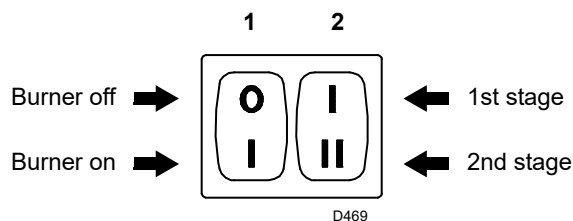
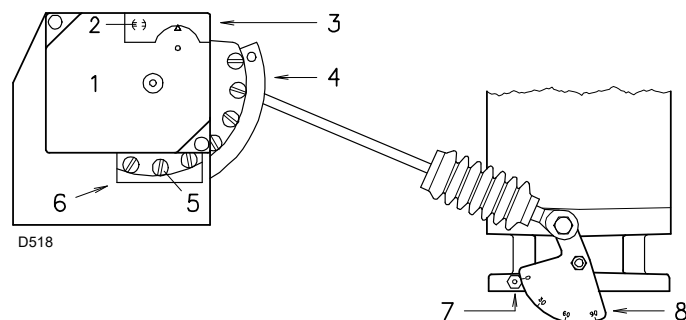
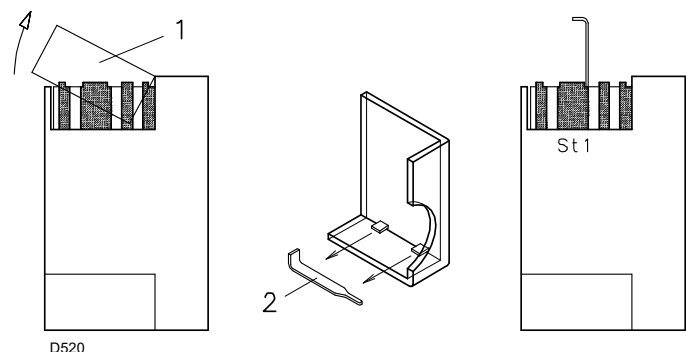

Fig. 28
Fig. 29
Fig. 30
- switch 1)(Fig. 28) to "Burner ON" position
- switch 2)(Fig. 28) to "1st STAGE" position.
In the above instructions we left the burner running in 1st stage operation. Now set switch 2)(Fig. 28) to the 2nd stage position: the servomotor will open, simultaneously, the air damper and the gas butterfly valve to 90°.
Progressively adjust the end profile of cam 4)(Fig. 29) by turning the cam adjustment screws as they appear through the access opening 6)(Fig. 29).
Set the switch 2)(Fig. 28) to the 1st stage position: the servomotor 1)(Fig. 30) will close the air damper and, at the same time, closes the gas butterfly valve down to 15°, i.e. down to the original factory setting.
- If this value is to be reduced, decrease the angle of cam St1 (Fig. 30) slightly by proceeding a little at a time until the angle is changed from 15° to 13° or 11°....
- If it is necessary to increase it, move to 2nd stage operation by altering the setting of switch 2)(Fig. 28) and increase the angle of cam St1, proceeding a little at a time until the angle is changed from 15° to 17° - 19°....
In order to adjust cam St1, remove press-fit cover 1)(Fig. 30), extract the relevant key 2)(Fig. 30), from inside, and fit it into the keyway in cam St1.
Progressively adjust the starting profile of cam 4)(Fig. 29) by turning the screws working through the access hole 6)(Fig. 29). It is preferable not to turn the first screw since this is used to set the air damper to its fully-closed position.
Switch off the burner using switch 1)(Fig. 28), disengage the variable profile cam, set the servomotor shaft slot 2)(Fig. 29) to a vertical position and turn the central screws of the cam so that the cam offers a progressive gradient.